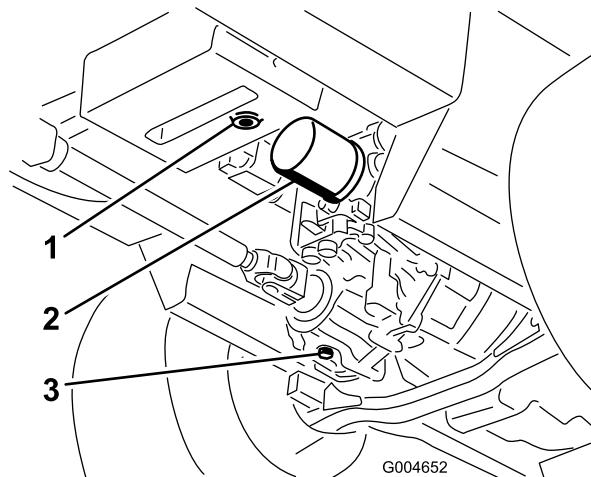

Figure 70
4. Clean the area around the hydraulic oil filter and remove it (Figure 70).
3. Place a large pan under the hydraulic reservoir and transmission case and remove the plugs, draining all of the hydraulic fluid (Figure 70).